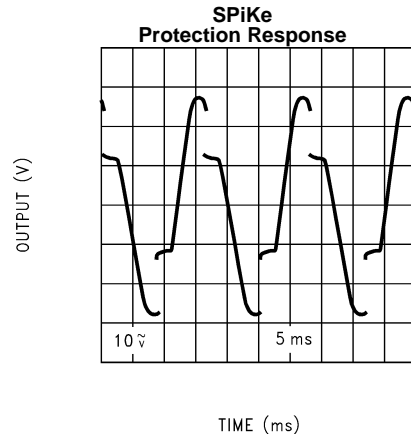

Figure 5.
- (1) All voltages are measured with respect to the GND pin (pin 7), unless otherwise specified.
- (2) Absolute Maximum Ratings indicate limits beyond which damage to the device may occur. Operating Ratings indicate conditions for which the device is functional. Electrical Characteristics state DC and AC electrical specifications under particular test conditions and specific performance limits. This assumes that the device is within the Operating Ratings. The typical value is a good indication of device performance.
- (3) Operation is specified up to 84V, however, distortion may be introduced from SPIKe Protection Circuitry if proper thermal considerations are not taken into account. Refer to THERMAL CONSIDERATIONS for more information. (See Figure 5)